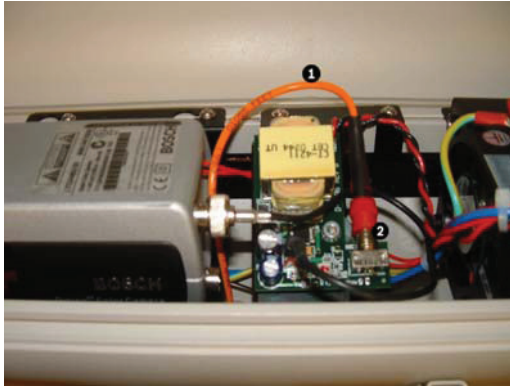

Figure 6.4 Connect the Fiber Optic Cable to the Transmitter
7. Connect the Cat5 / Cat6 cable to the network connector on the back of the camera. See *Figure 6.4*.